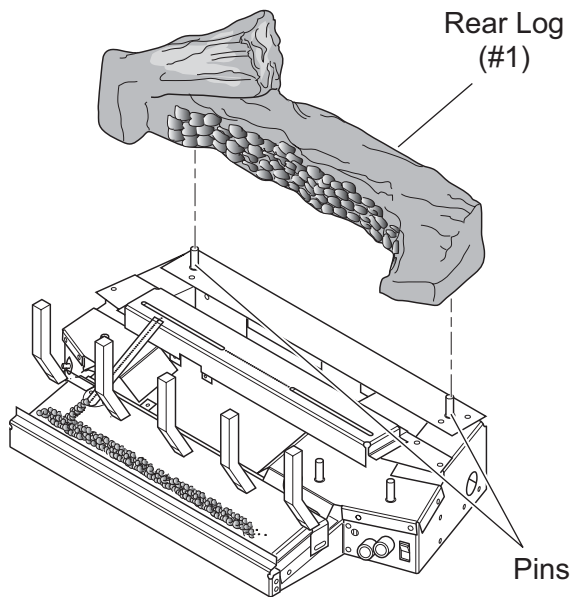

Figure 30 - Installing Back Log (#1)
1. Install rear log (#1) on two pins (2) located near the back of base. Check log position and stability. *See Figure 30.*